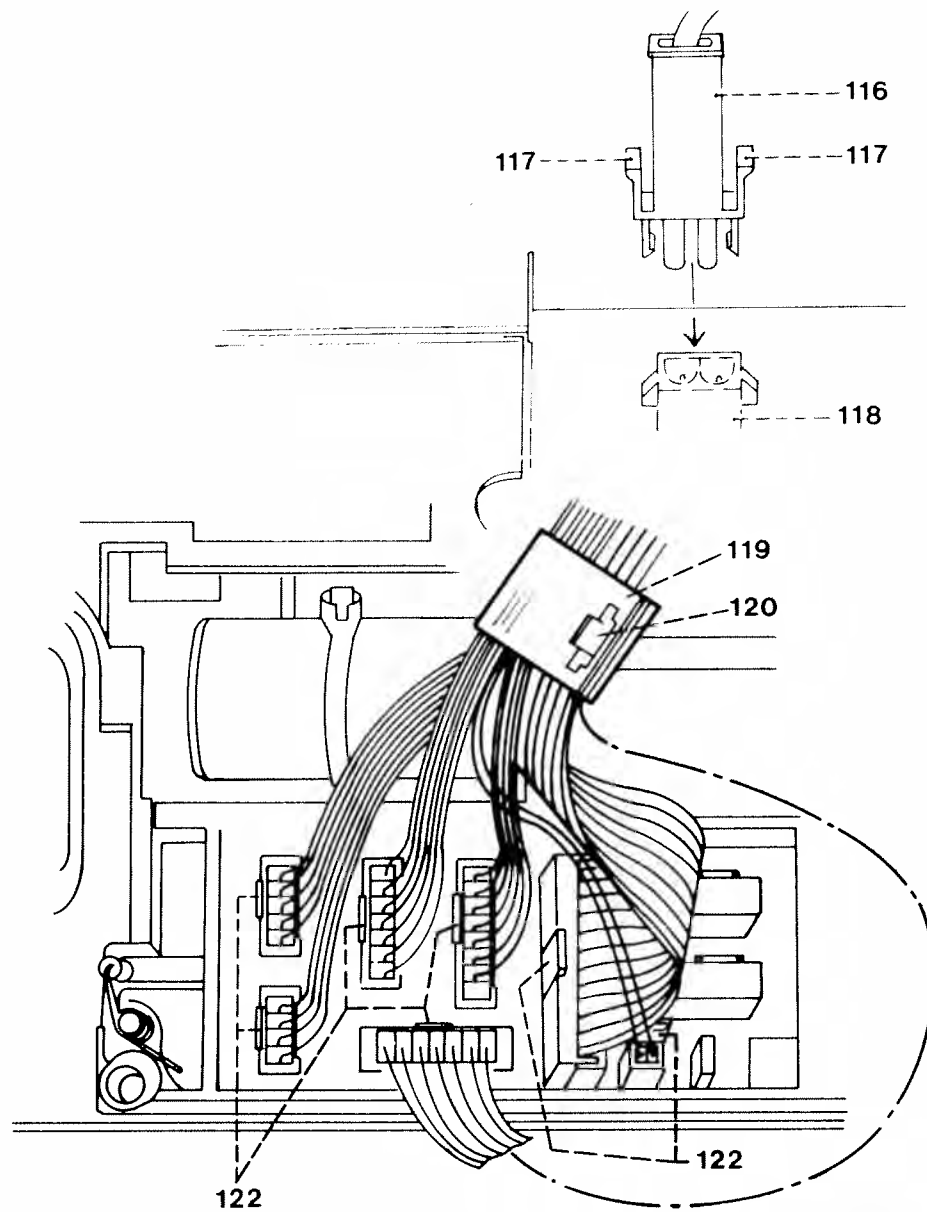

Fig. 28
- Lift catches 122 by 1 to 2 mm and remove the seven flat cables with the plugs from the control circuit board (Fig. 28).
- Insert motor plug 116 into motor socket 118 (Fig. 28).